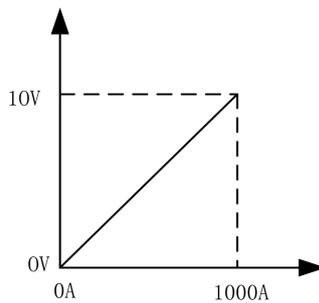

Fig. 4-26 Proportional diagram: real-time welding current V.S. value from welding machine to robot
5. The proportional diagram of the preset wire-feeding speed is shown in Fig. 4-26.